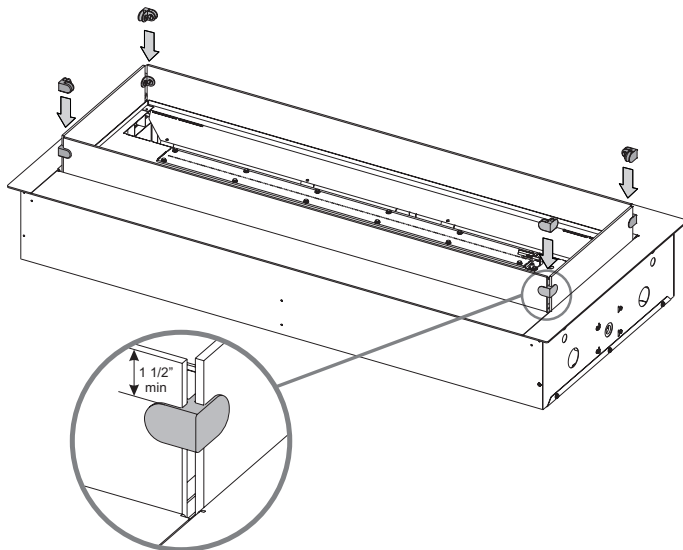

Figure 27b
3. If installing the optional glass wind panel kit, do not install the filler strips in step 2. Refer to **Figure 27b** for glass wind panel kit installation.